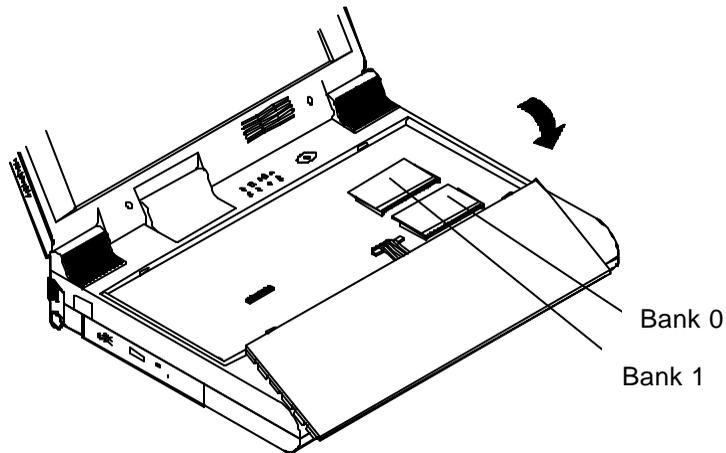

Figure 2-5
3. Carefully lift the keyboard assembly out so that the mainboard is exposed. Locate the memory sockets (Figure 2-5).
3. Carefully lift the keyboard assembly out to expose the mainboard. Locate the memory sockets (Figure 2-5).